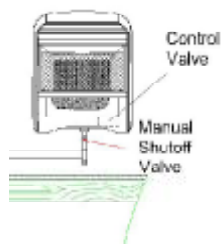

Figure 14 -Checking Gas Connections
3. Check all joints from gas meter to equipment shutoff valve (see Figure 14). Apply mixture of liquid soap and water to gas joints. Bubbles forming show a leak.
4. Check all joints from equipment shutoff valve to control valve (see Figure 14). Apply mixture of liquid soap and water to gas joints. Bubbles forming show a leak.